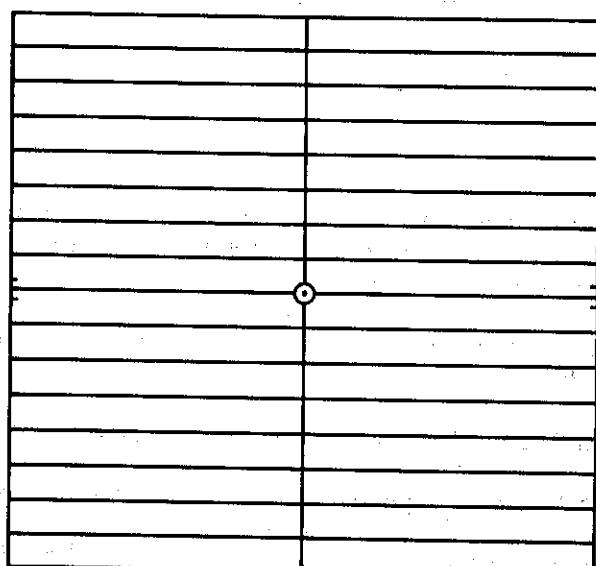

Figure 4-71. Template
3. Place map-cutting template (figure 4-71), over center point of chart. Rotate cutting template to place reference lines on or parallel with latitude and longitude lines on chart. Mark and cut chart.